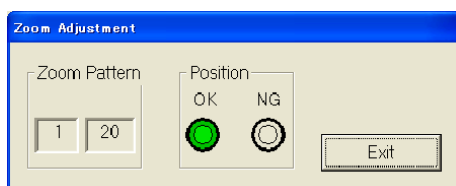

Fig. 4-6-3
- 3) Set the zoom position to Tele end, and check that the OK (Green) indicator of “Position” lights as shown in Fig. 4-6-3.